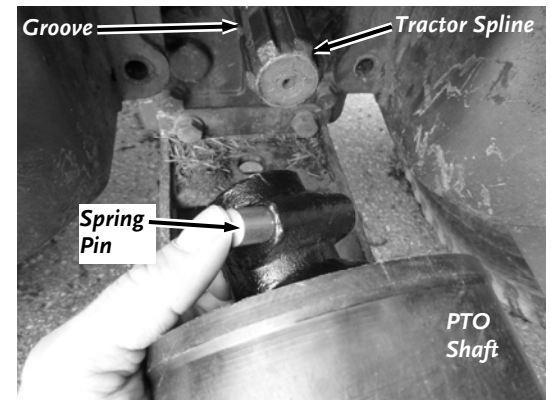

Figure 31
1. Push in the Spring Pin at one end of the PTO Shaft and slide it onto the Tractor Spline (**Figure 31**). When the PTO Shaft is started on the Tractor Spline Shaft, release the Pin and continue to push the PTO Shaft until the Spring Pin locks into the Groove of the Tractor Spline.